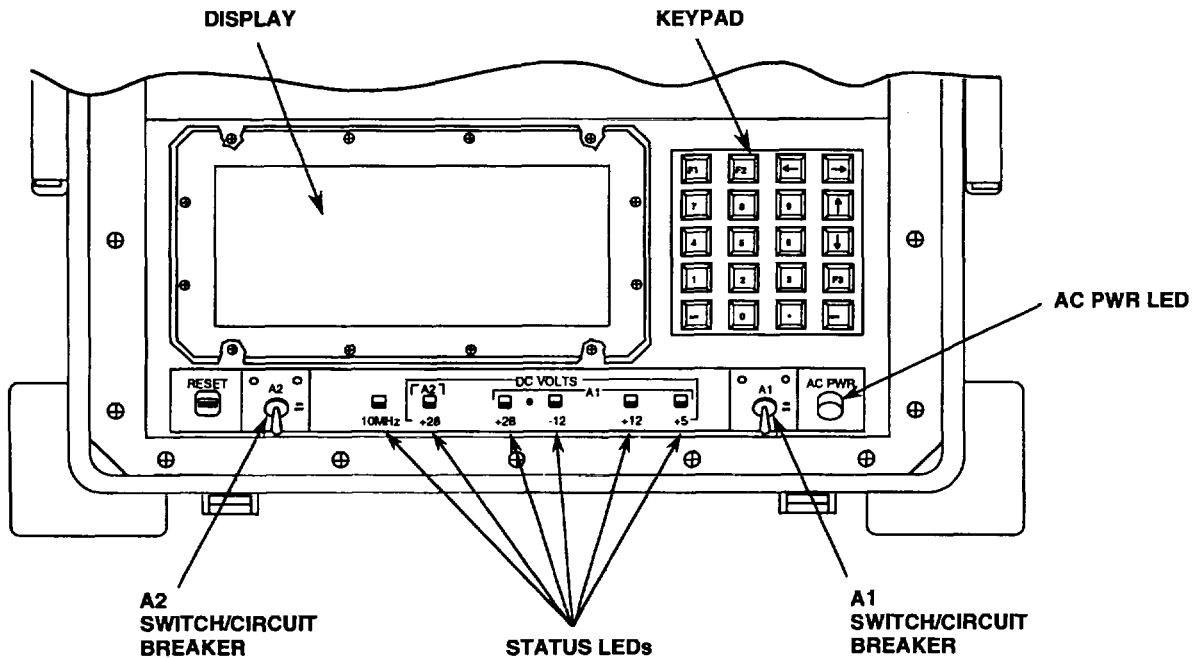
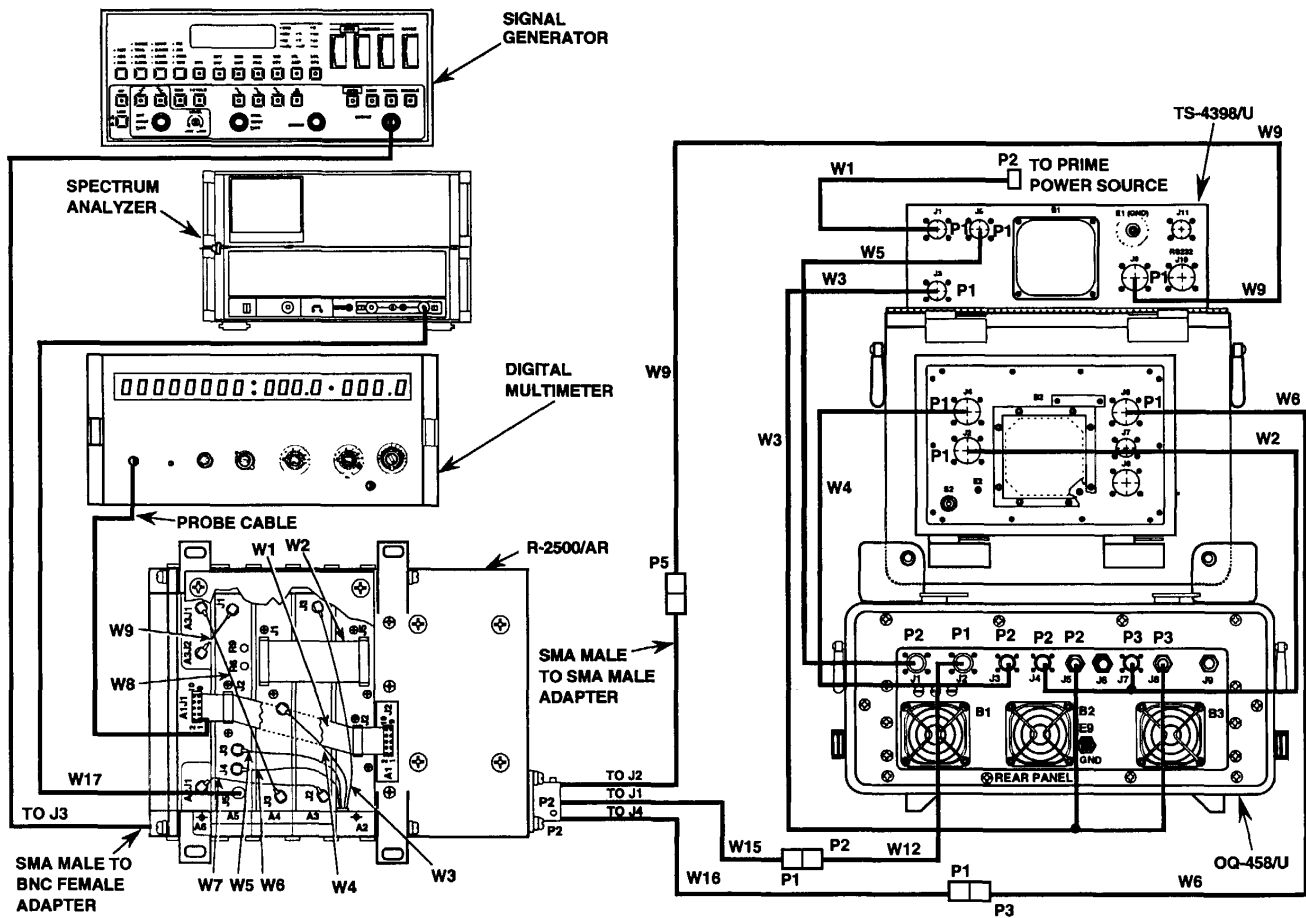

Figure 5-55. TS-4398/U CONTROLS AND INDICATORS.
Figure 5-57. R-2500/AR A6A1J1 OUTPUT TEST INTERCONNECTIONS.
The interconnections for the no output on bands 1 and 2 test are shown in figures 5-56 and 5-57. The test controller TS-4398/U controls and indicators used during the test are shown in figure 5-55. Figure 5-56 shows the no output on bands 1 and 2 test interconnections. Figure 5-57 shows the A6AIJ1 output test interconnections.
5.	Connect the probe cable to the input of the digital multimeter. (See figure 5-57.)